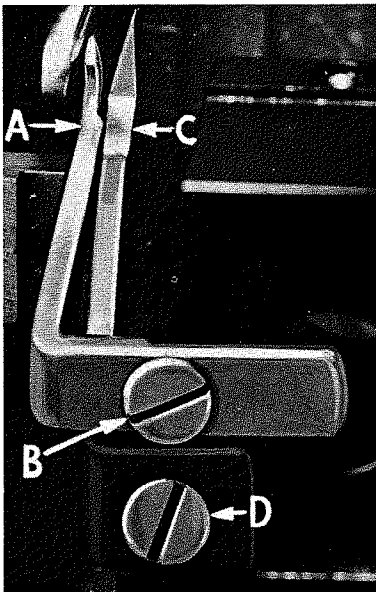

Fig. 5
Set rear needle guard (A, Fig. 5) as high as possible, without interfering with either lower looper or movement of lower knife holder; but still in position to deflect needle forward .002 - .004 inch. Screw (B) is used to set rear needle guard.
Assemble front needle guard (C, Fig. 5). When lower looper is springing needle off back guard, set front needle guard as close as possible to needle without touching. Screw (D) is used to adjust and set front needle guard. After this setting, make sure there is no interference between needle guard and main feed dog.